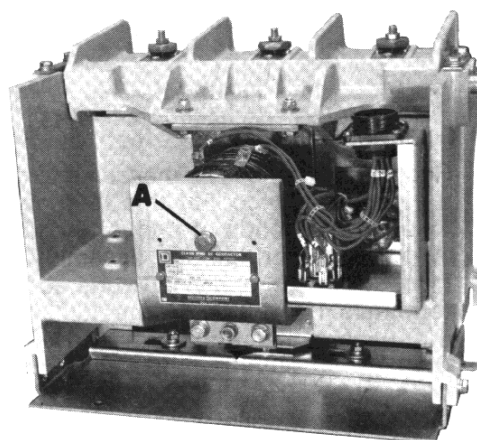

FIGURE 2
Disconnect coil wires from the coil. Remove bolt (A) (See Figure 2) from magnet frame and slide magnet assembly to the left for removal of coil. (Do not remove spring washer from core.) Install new coil on magnet assembly and reinstall magnet assembly (items 33, 34 and 31) to contactor. Reattach coil wires.